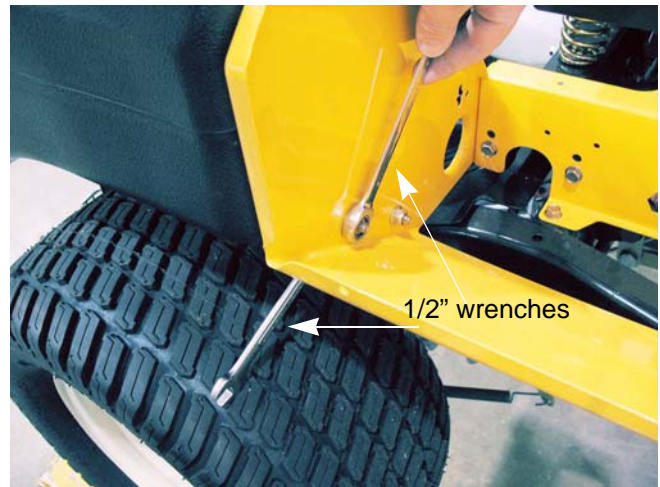

Figure 4.19
6. Remove the nuts and bolts that hold the fuel tank bracket to the control console using a pair of 1/2" wrenches. See Figure 4.19.